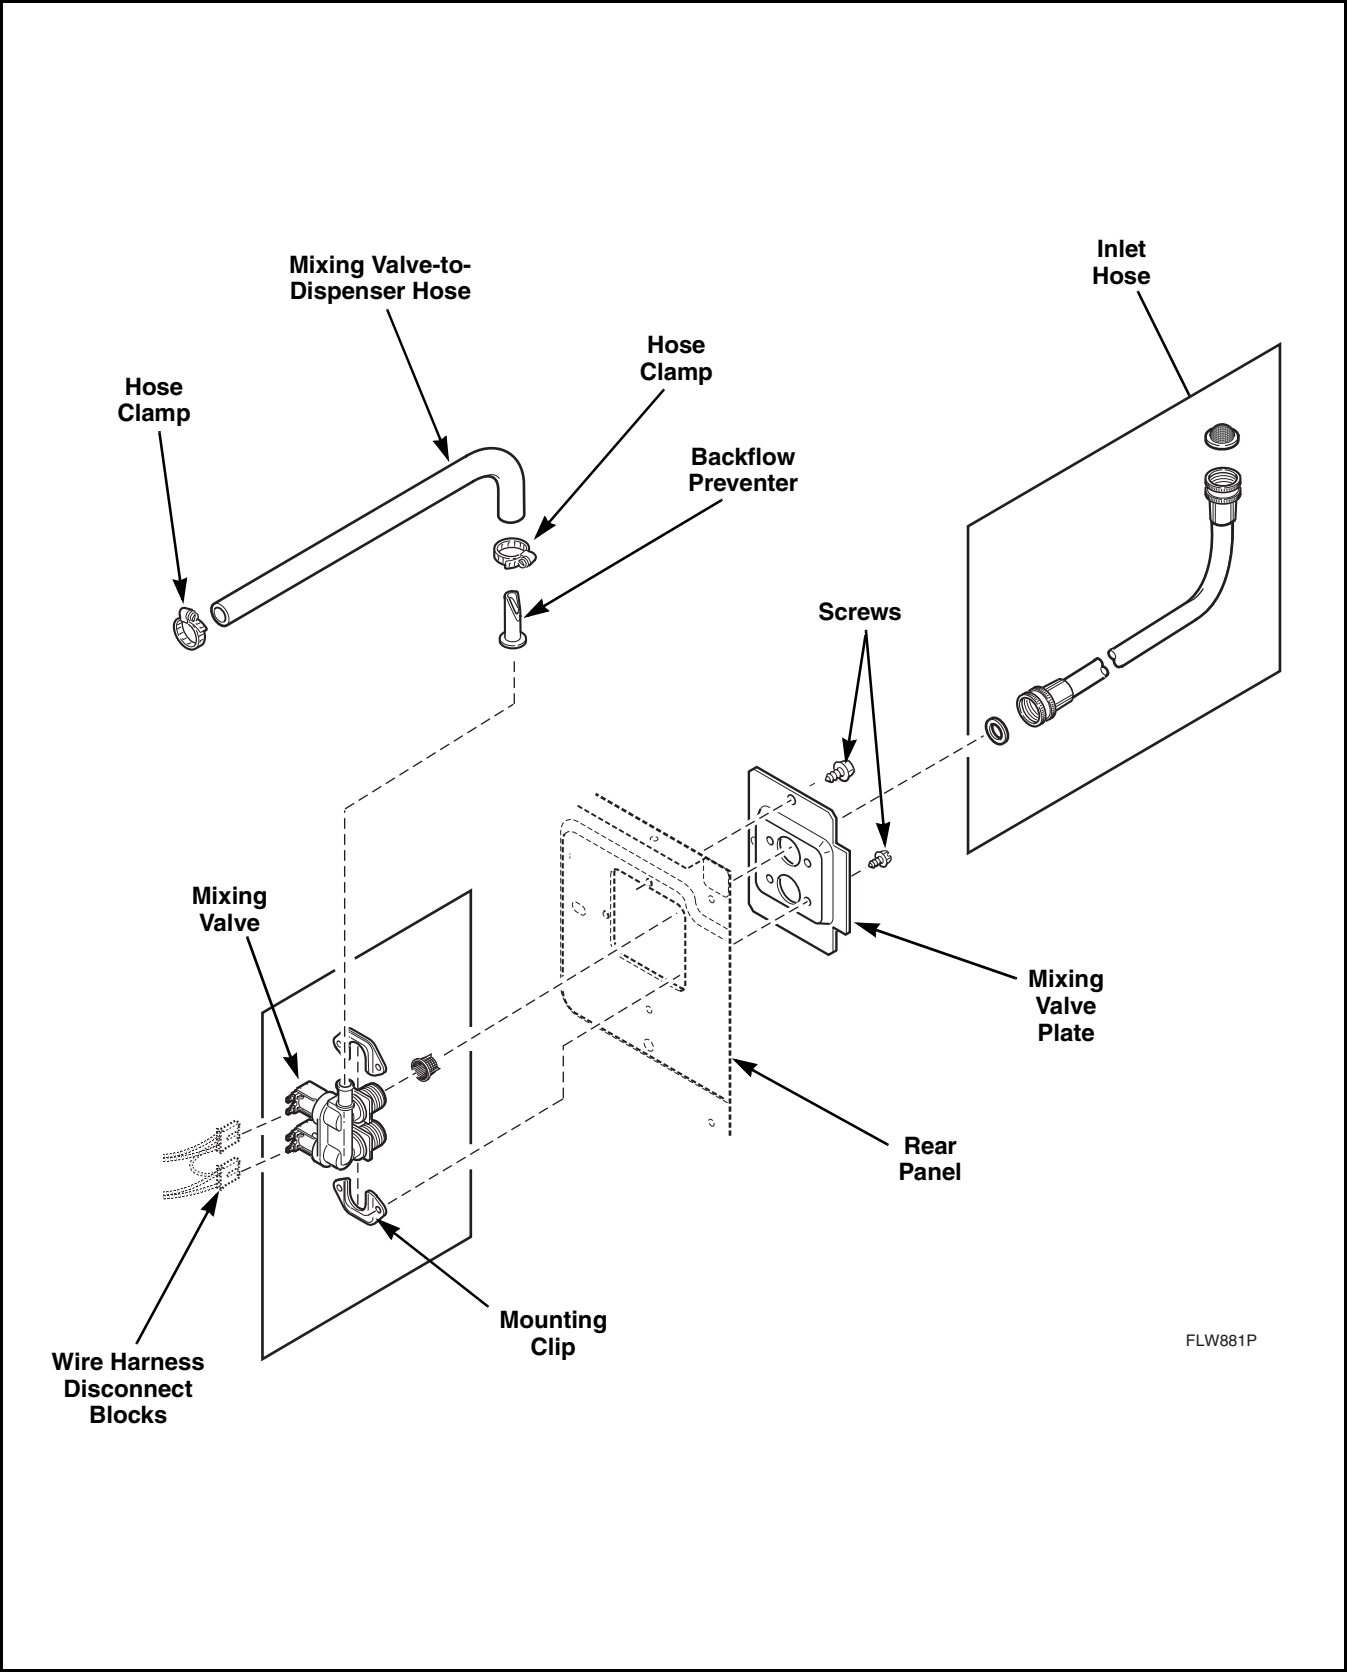

Figure 14
- c. Mixing valve is located on upper back right corner of rear panel. Refer to *Figure 14*.
- e. Loosen hose clamp and remove mixing valve-to-dispenser hose at the mixing valve. Refer to *Figure 14*.
- f. Remove wire harness disconnect blocks from mixing valve solenoid terminals. Refer to *Figure 14*.
- g. Go to rear of washer and remove screw holding mixing valve and plate to rear panel, then remove valve and plate out through opening in rear panel. Refer to *Figure 14*.
- h. Remove screws holding valve to mixing valve plate. Refer to *Figure 14*.